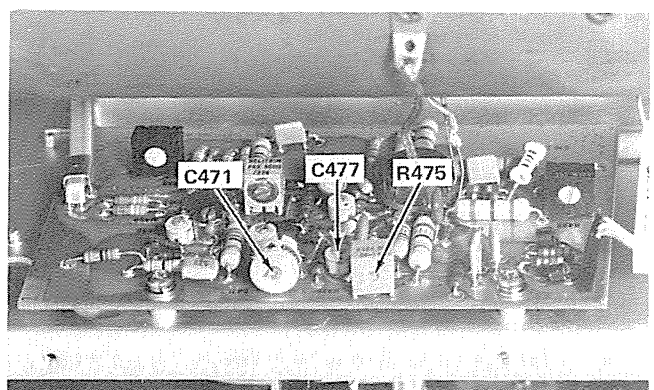

Fig. 5-18. Location of R475, C471, and C477.
- h. ADJUST—C471 and C477 (see Fig. 5-18) with a low-capacitance screwdriver, for the best flat-top waveform.